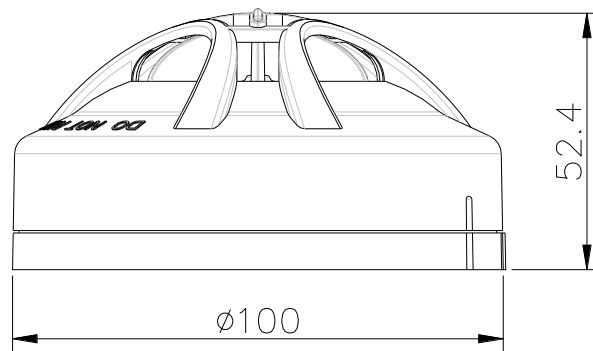
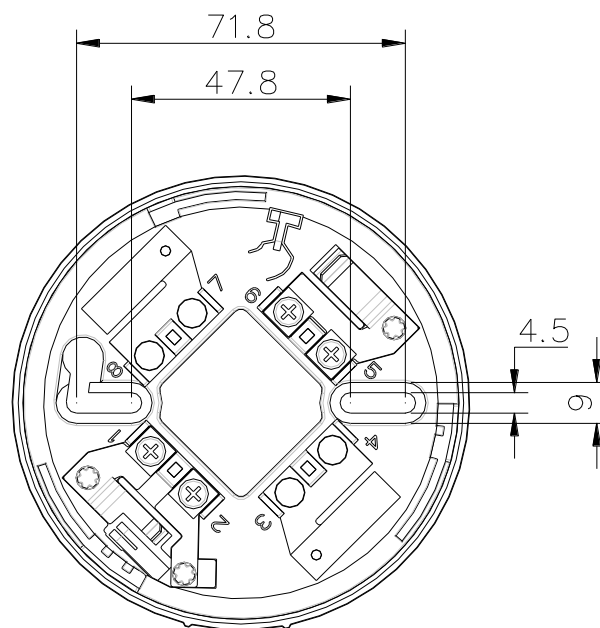

Fig. 1: Appearance & Dimension
Fig.2 : TXC3110 Mounting Dimension
- 4.1 The structure and dimension are shown in Fig 1& Fig 2: